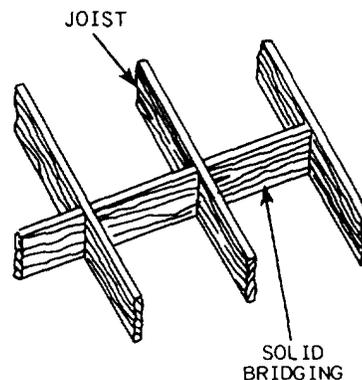

Figure 1-28.—Solid bridging.
**SOLID BRIDGING.**— Also known as solid blocking, solid bridging (fig. 1-28) serves the same purpose as cross bridging. This method is preferred by many Builders to cross bridging. The pieces are cut from lumber the same width as the joist material. They can be installed in a straight line by toenailing or staggering. If staggered the blocks can be nailed from both ends, resulting in a faster nailing operation. Straight lines of blocking may be required every 4 feet OC to provide a nailing base for a plywood subfloor.